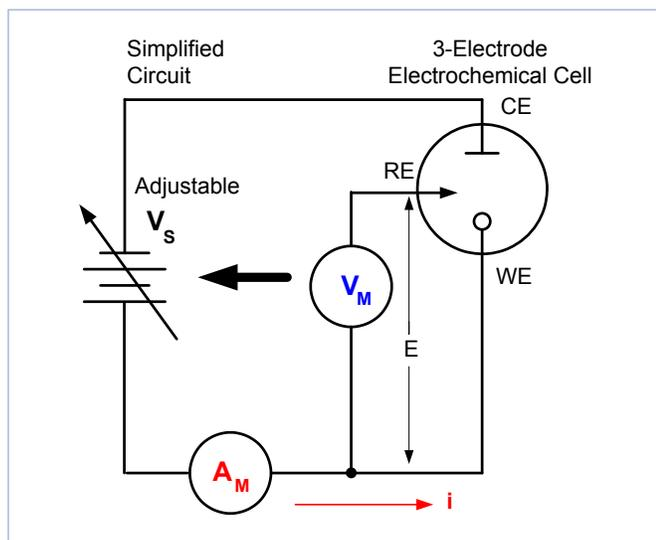

Figure 1. Simplified measurement circuit for performing cyclic voltammetry.
Cyclic voltammetry (CV), a type of potential sweep method, is the most commonly used electrochemical measurement technique, which typically uses a 3-electrode cell. **Figure 1** illustrates a typical electrochemical measurement circuit made up of an electrochemical cell, an adjustable voltage source ( $V_s$ ), an ammeter ( $A_M$ ), and a voltmeter ( $V_M$ ). The three electrodes of the electrochemical cell are the working electrode (WE), the reference electrode (RE), and the counter electrode (CE). The voltage source ( $V_s$ ) for the potential scan is applied between the WE and CE. The potential (E) between the RE and WE is measured with the voltmeter, and the overall voltage ( $V_s$ ) is adjusted to maintain the desired potential at the WE with respect to the RE. The resulting current (i) flowing to or from the WE is measured with the ammeter ( $A_M$ ).